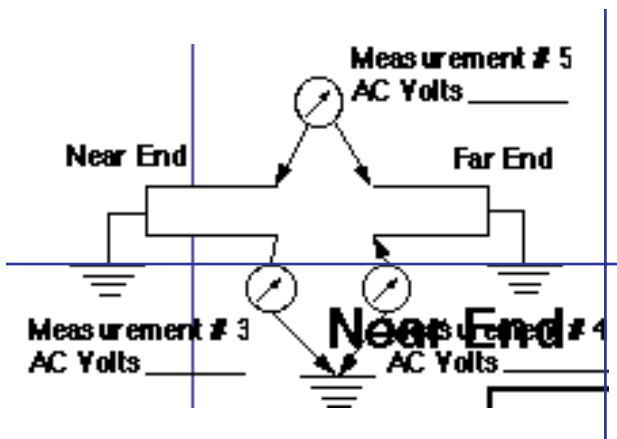

Figure 3: Measurements #3, 4 and 5
(h) It may be desirable to open the pair near its mid-point and measure and record the AC voltage to ground in each direction. This should be done with both the near and far ends grounded. These are measurements #3 and #4 (See Figure 3). Measure and record the AC voltage across this open, tip (T) to tip (T) or ring (R) to ring (R). This will be measurement #5 (See Figure 3).
**Note:** The two wires of a facility are referred to as the tip (T) and ring (R). Some parts of the world refer to these as “a” and “b.”